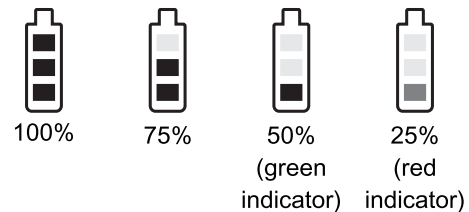

Fig. 2
- ❸ Battery Level Indicators
- ❹ Power Button
- ❺ Housing
- ❻ 6.3 Ø Input Phone Plug
- ❼ Battery Charging Contacts
- ❽ Battery Cover and Battery Negative Pole
- ❹ Battery Compartment and Rechargeable Battery. Insert plus positive (+) polarity battery towards inside of the compartment.
- (A) Power on: Press the power button ❹ and battery indicators ❸ are lit.
- (B) Power off: Press the power button for two seconds and battery indicators are off.
- (C) Battery level indicators, Fig. 2. Recommend charging or replace a fully-charged battery when single red indicator remains. Power shutdown automatically when battery voltage is too low.